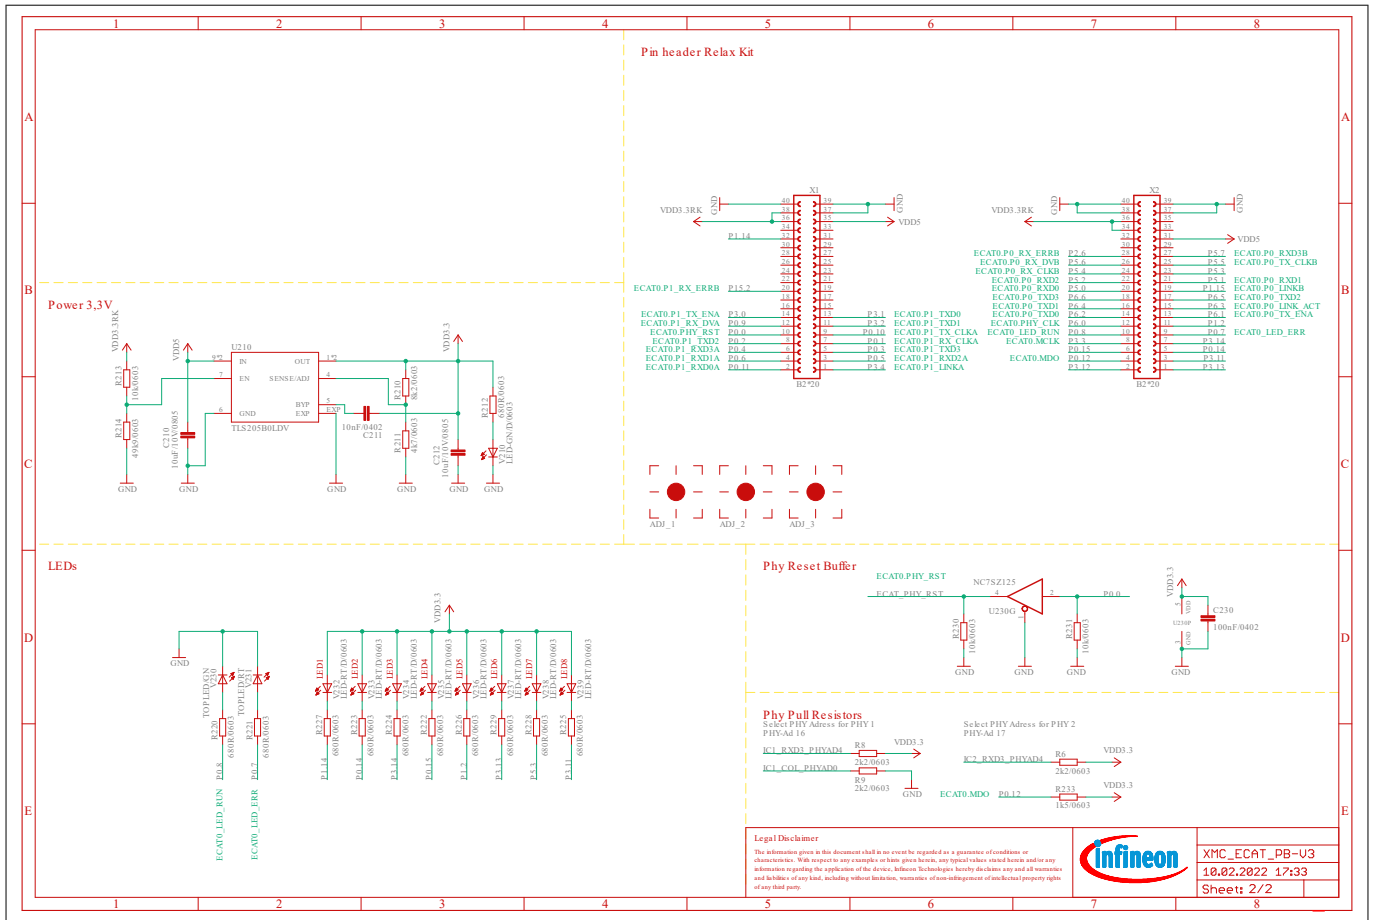

Figure 15 XMC™ EtherCAT Phy Board Schematic: Power, Connectors, LEDs (see Revision 1.3)
- Figure 15: XMC™ EtherCAT Phy Board Schematic: Power, Connectors, LEDs (see Revision 1.3)